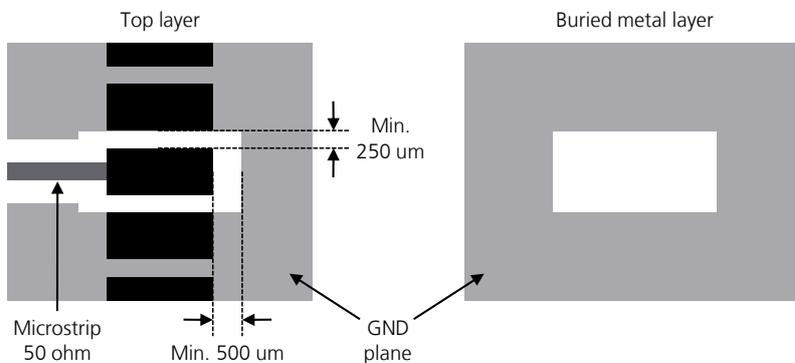

Figure 56: GND keep-out area on top layer around **ANT** and **ANT\_DIV** pads and on buried layer below **ANT** and **ANT\_DIV** pads
- Increase GND keep-out (i.e. clearance) for **ANT** and **ANT\_DIV** pads to at least 250  $\mu\text{m}$  up to adjacent pads metal definition and up to 500  $\mu\text{m}$  on the area below the module, as described in Figure 56
- Add GND keep-out (i.e. clearance) on buried metal layers below **ANT** and **ANT\_DIV** pads and below any other pad of component present on the RF line, if top-layer to buried layer dielectric thickness is below 200  $\mu\text{m}$ , to reduce parasitic capacitance to ground (see Figure 56 for the description of the GND keep-out area below **ANT** and **ANT\_DIV** pads)